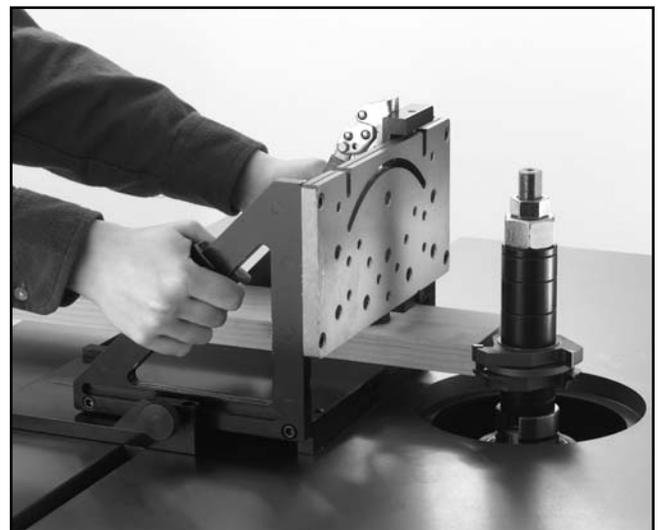

Figure 28. Using safety fixtures while shaping (guard removed for clarity).
6. Use some type of hold-down fixture and guard when doing irregular work. **Figure 28** shows the Grizzly Model G3642 Shop Fox® Right Angle Jig. This is just one example. A good shaper book will provide many different ideas for making jigs for almost all shaping operations.
Sometimes the starting pin will not be in the most advantageous position. Firmly clamp a board in the desired position to act as a starting pin. See **Figure 29**. Some type of pivot point **must be** used. Notice in **Figure 28 & 29** the operator is not exposed to the cutting edge of the cutter.